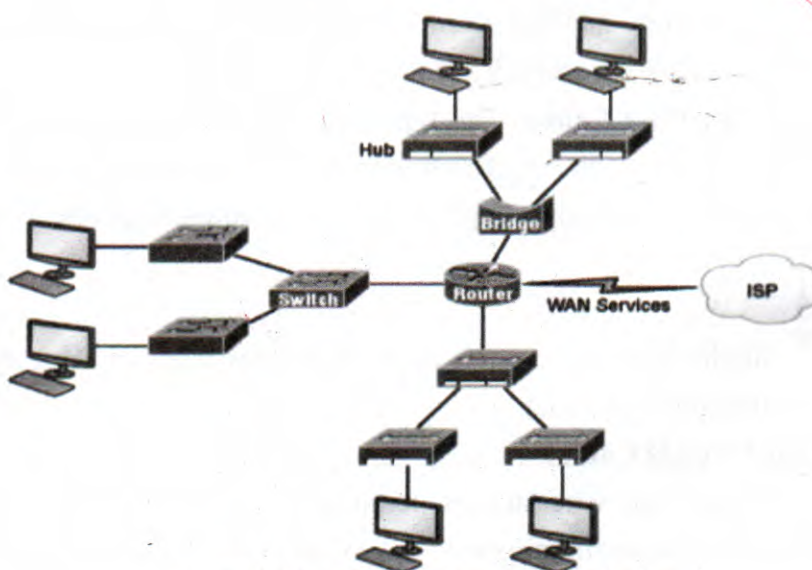

Figure 2.1: Internetwork of Communication Devices
1. The diagram in Figure 2.1 depicts an example of an actual internetwork with hubs, bridges, switches, routers and hosts. How many broadcast domains exist there?
1. How many collision domains exist in the network shown in Figure 2.1?
3. Assuming you are the administrator of a network with one hundred (100) hosts all connected to three (3) interconnected hubs. Two of the hubs have 48-ports while the last one has 8-ports.